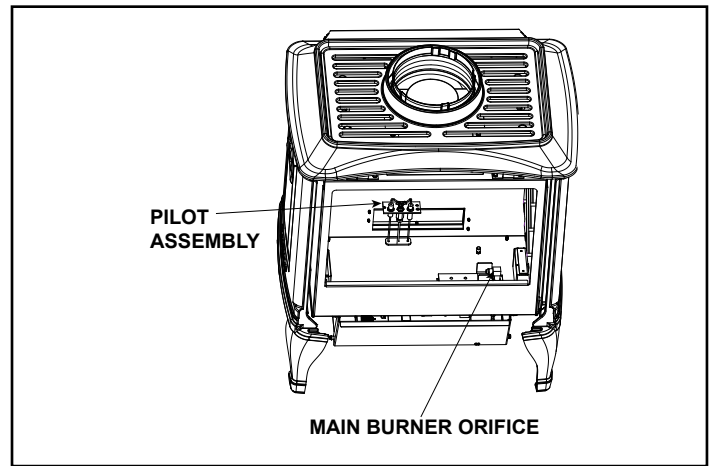
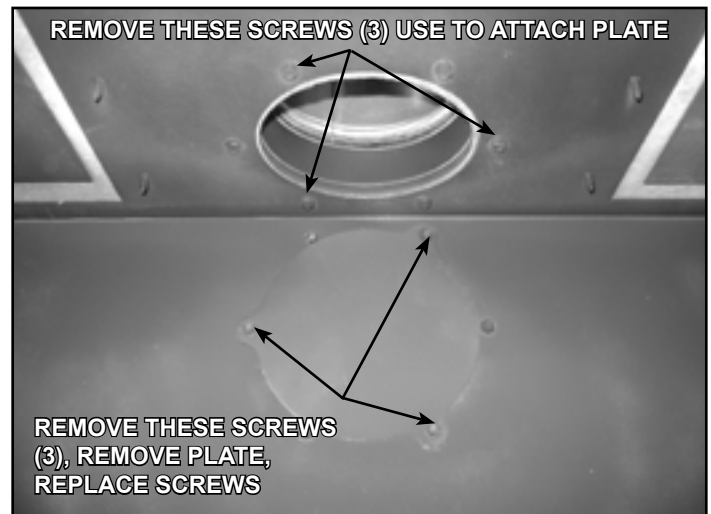

Figure 14.
Figure 15.
15. Using the 3/8 in. open end wrench, replace the main burner orifice with the orifice included in the conversion kit. Use appropriate orifice for gas type. See Figure 14.
17. On inside of firebox, remove plate and gasket on rear of firebox by removing three screws as shown in Figure 14. Discard gasket. Replace screws on rear of firebox. Remove three screws as shown in Figure 15. Attach plate and new gasket, included in kit, with three screws.